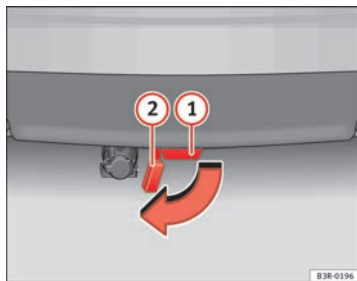

Fig. 163 Rear bumper:
- Remove the cover piece **2** ⇒ fig. 163 on the mounting fixture **1** below the bumper as far as it will go. The cover piece is held automatically in the open position.